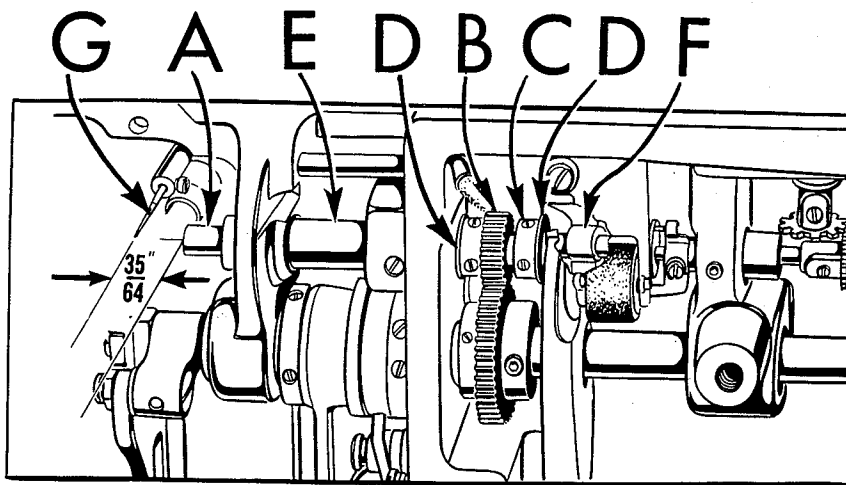

Fig. 19
The hook shaft (A, Fig. 19) is held in position by the pinion (B) and collar (C) thrusting against hard steel washers (D) between the long left hand bushing (E) and the short right hand bushing (F).
Before re-assembly, the end of the hook shaft, its spiral groove and the pump disc should be thoroughly cleaned. Remove any end play found in hook shaft and determine that the $35/64$ inch dimension has been maintained (Fig. 19).